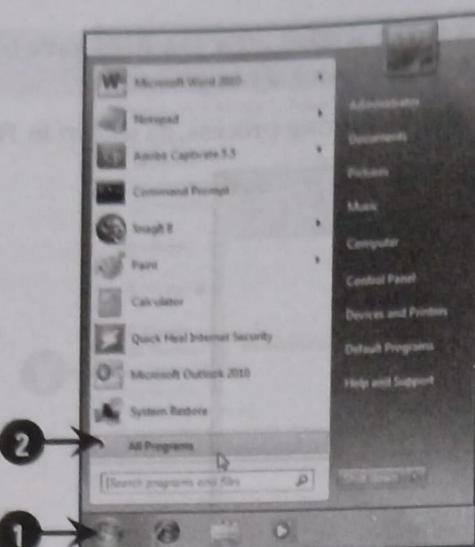

Fig.HD-8.14
1. Click the **Start** button on the Taskbar. The **Start** menu appears (Fig.HD-8.14).
2. Select **All Programs** from the **Start** menu. A list of options appears (Fig.HD-8.14).
1. Click the Start button on the Taskbar. The Start menu appears (Fig.HD-8.14).
2. Select All Programs from the Start menu (Fig.HD-8.14). A list of options appears.